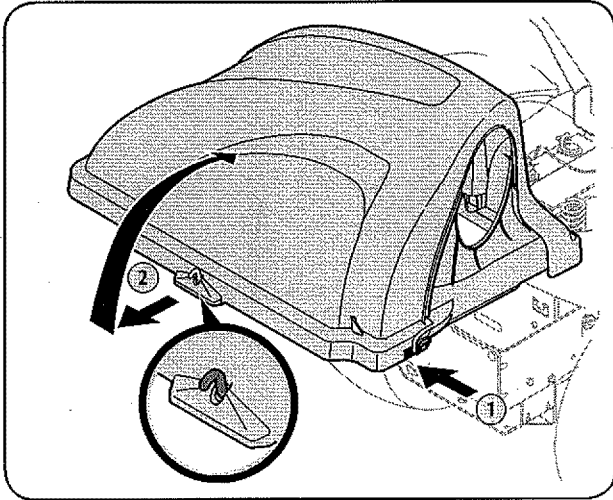

Figure 5-1
2. Open the grass catcher hood by pushing in on the rear, right-side tab with your right hand, as seen in 1 of Figure 5-1, and lifting the cover with your left hand in the center rear of the bagger cover, 2.